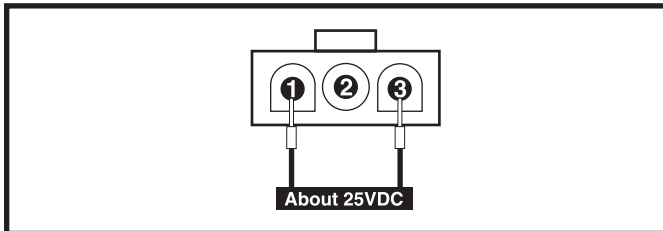
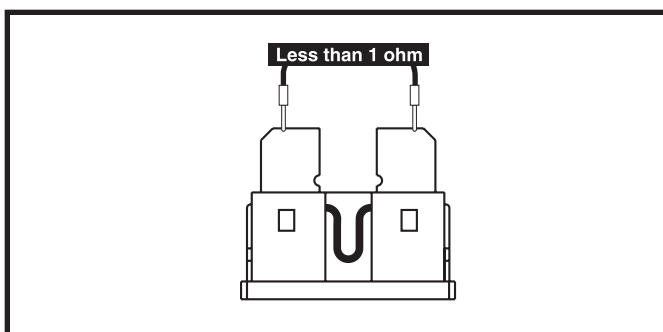

Figure 12. Connector 3b
Figure 13. Fuse 3d
14. Measure voltage across pin 1 and pin 3 on connector 3b. See figure 12.
- If your multimeter indicates total battery voltage (about 25VDC), then replace the battery charger (4) and retest the system.
- If your multimeter indicates 0VDC, then replace the charger/inhibit harness (3) and retest the system.
16. Measure resistance across the two blades on the fuse (3d). See figure 13.